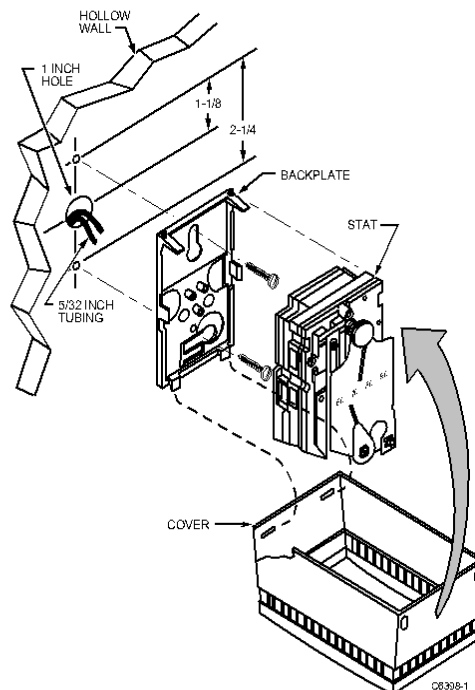

Fig. 4. TP971 and TP972A2218 controls and indicators. Front view—cover off.
1. Remove stat cover and install 0 to 30 psi (0 to 207 kPa) gage in gage tap (Fig. 4)
2. Turn setpoint indicator (Fig. 4) up slowly.
2. Turn down setpoint indicator (Fig. 4) slowly.
3. Turn the calibration screw (see Fig. 4) until the gage reads 0 psi.
3. With 13 psi (91 kPa) (DAY) main air pressure, turn the DAY (left) calibration screw (see Fig. 4) until the gage reads 0 psi.
3. With 13 psi (91 kPa) (SUMMER) main air pressure, turn the SUMMER (left) calibration screw (see Fig. 4) until the gage reads 0 psi.